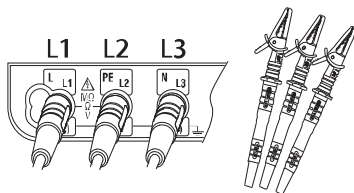

Fig. 46
- ▲ If earth resistance of auxiliary earth spikes is too large, it may result in inaccurate measurement. Make sure to stick the auxiliary earth spike and H(C) into the moist part of the earth carefully, and ensure sufficient connections between the respective connections. High auxiliary earth resistance may exist if " $R_s H_i$ " or " $R_H H_i$ " is displayed during measurements.
2. Insert the Test Leads into the instrument. (Fig.46)